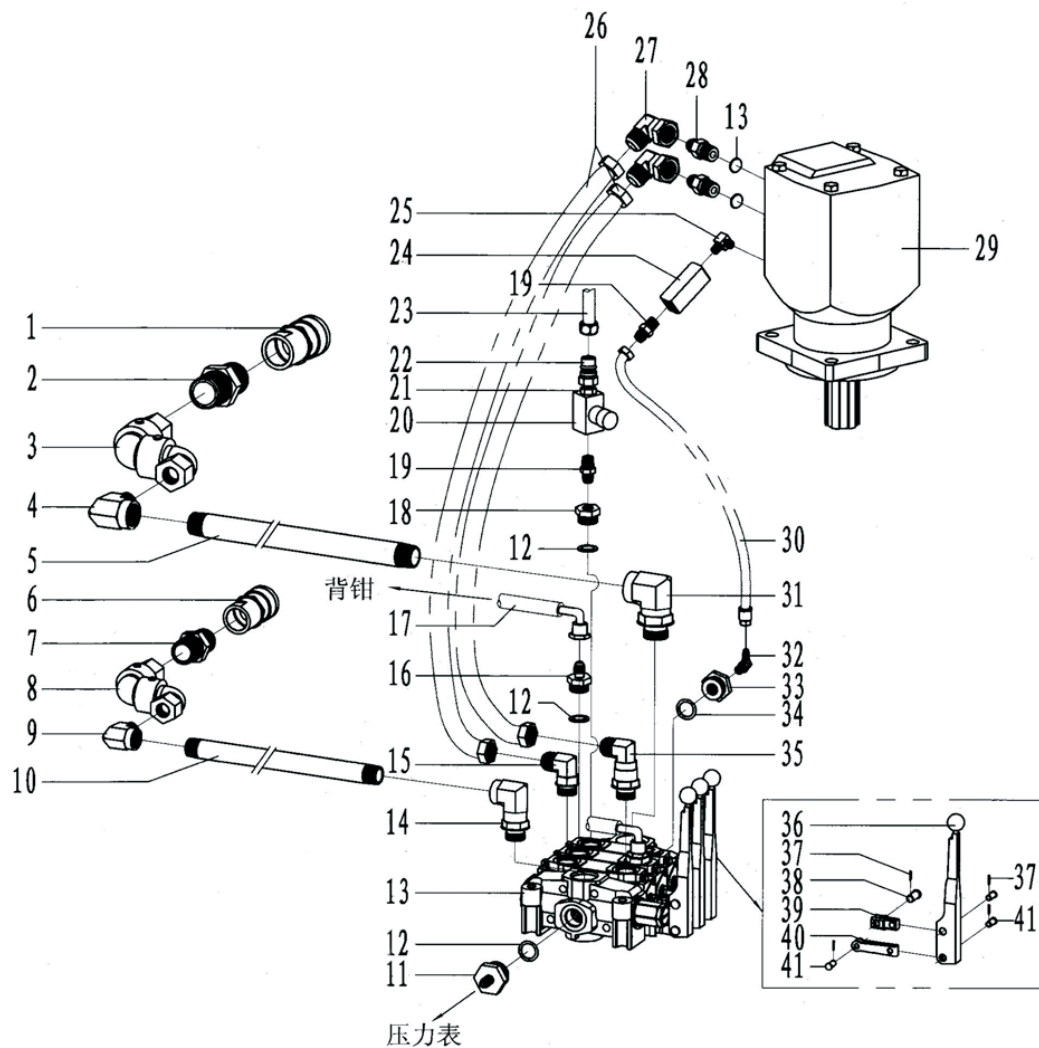

Fig.10
7.10 Hydraulic pipeline (Fig 10, Table 10)